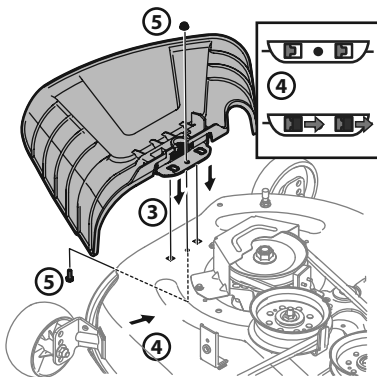

Figure 11
3. Place the chute deflector on the deck, be sure to insert the tabs on the chute deflector into the holes on the deck. See Figure 11.
4. Slide the chute deflector toward the rear of the tractor until the bolt hole in the chute deflector aligns with the hole in the deck. See Figure 11.
5. Secure the chute deflector in place with the flange lock nut and hex screw removed in step two. Tighten to 102-124 in.-lbs (11.5-14 N-m). See Figure 11. Skip ahead to “Setting the Deck Wheels”